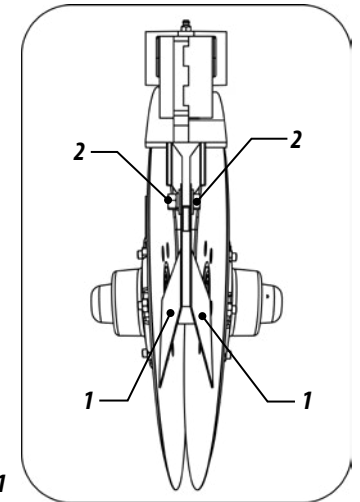

Figure 41
- 6- Adjust the spring pressure (4) of the cutting disc by removing the lock and washer (5) positioning the pin (6) in the hole - detail "b". Figure 41.